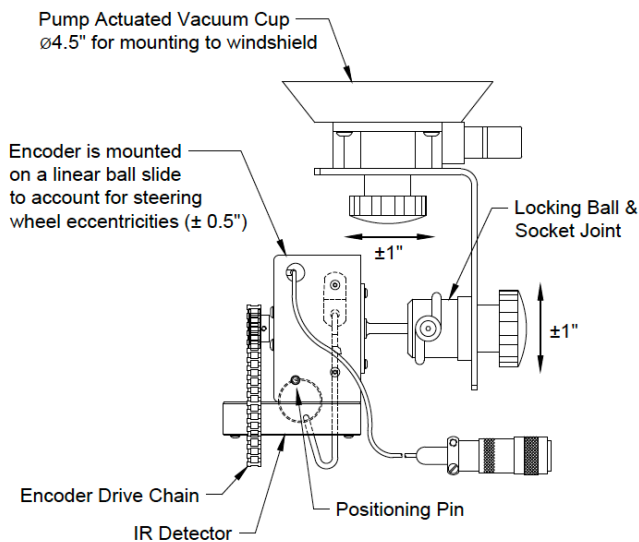

Figure 2: Angular Position Sensor
- E.** If necessary, adjust its position by loosening the knobs and sliding the bracket to the correct position (see figure 2).